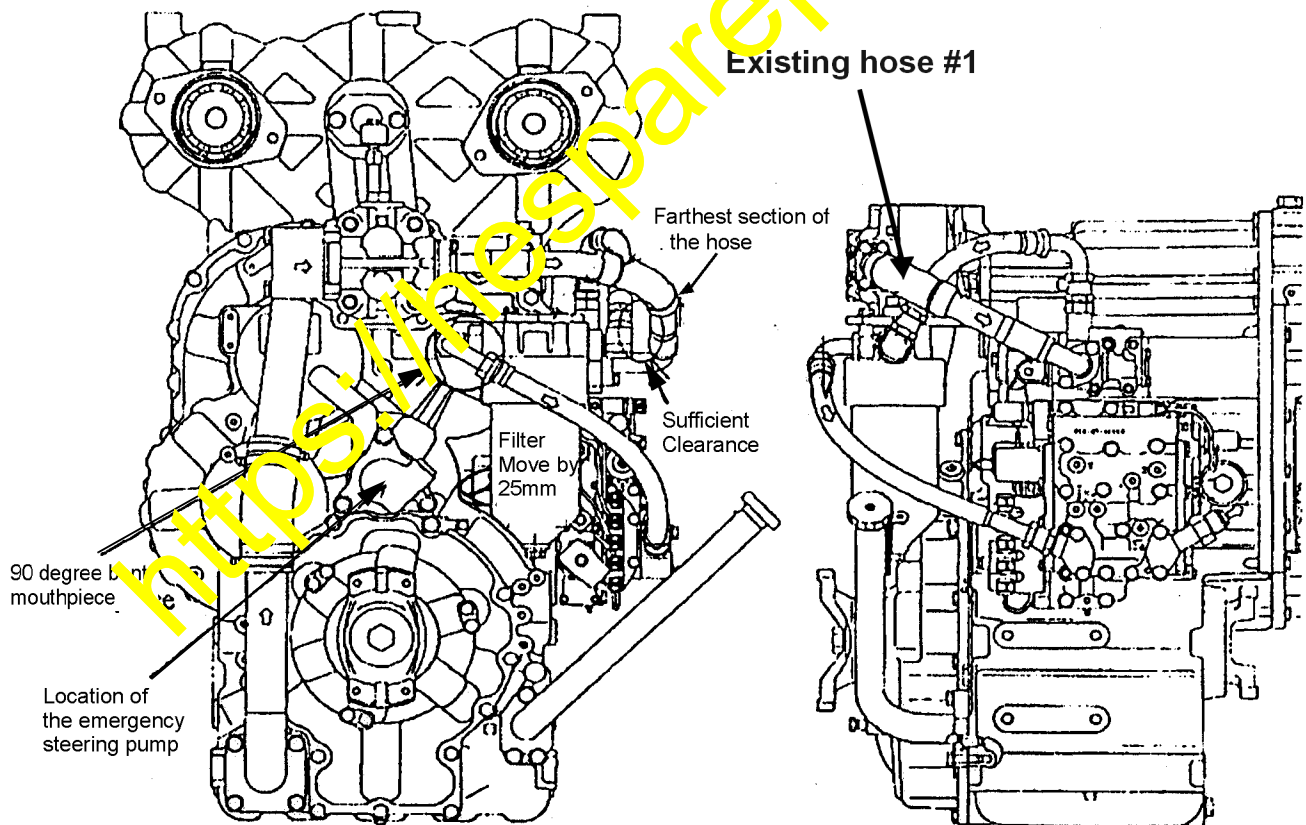

Figure 9
9. Remove the old hoses #1 from the transmission. See Figure 9.